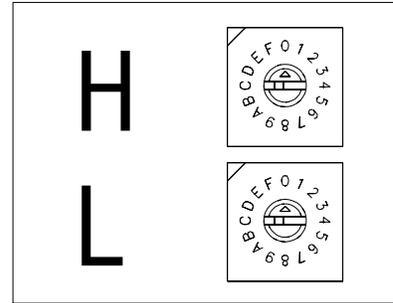

Figure 10: Driver Address Dials
- For 16-column "Gyrus" drivers, addresses are set through the S2 (L) and S3 (H) rotary switches on the driver (**Figure 10**) using a small flathead screwdriver. Refer to the tables below or an older driver being replaced to determine the correct address setting. Then see **DWG-1198765** in **Appendix C** for addressing information of driver addresses 1 – 255.